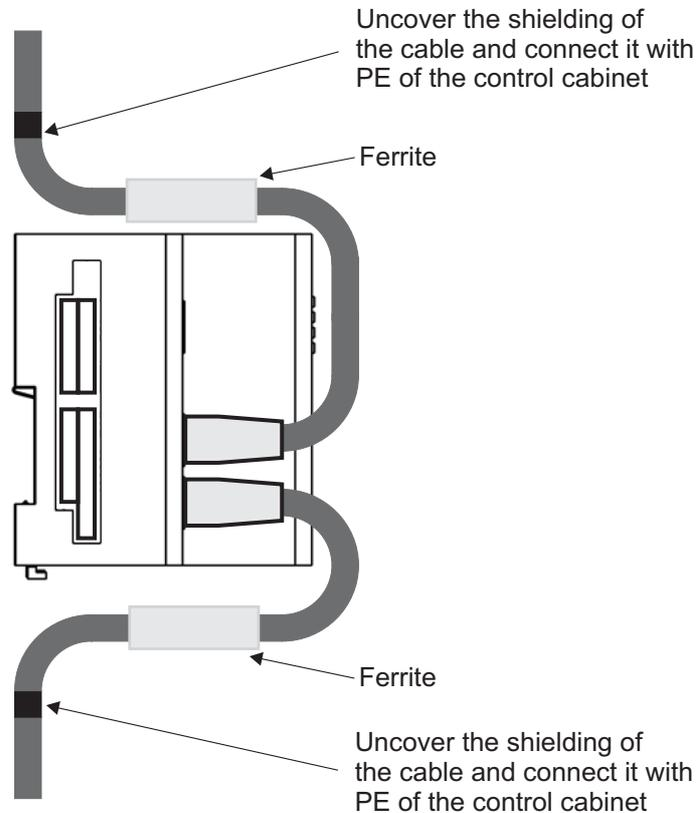

Figure 22: Cable running
Run the cable connection according to the instructions in ▶Figure 22◀. At first uncover the shielding. The length of the uncovered shielding must accord to the width of the mounting clamp. The cable must be fastened with the mounting clamp in such a way that there is a connection between the shielding of the cable and the PE of the control cabinet.
- ▶ Apply a ferrite at each cable between the connector and the applying position at the mounting plate (see ▶Figure 22◀ and appendix Accessories ▶B.1.3 Ferrites◀ on page 76).